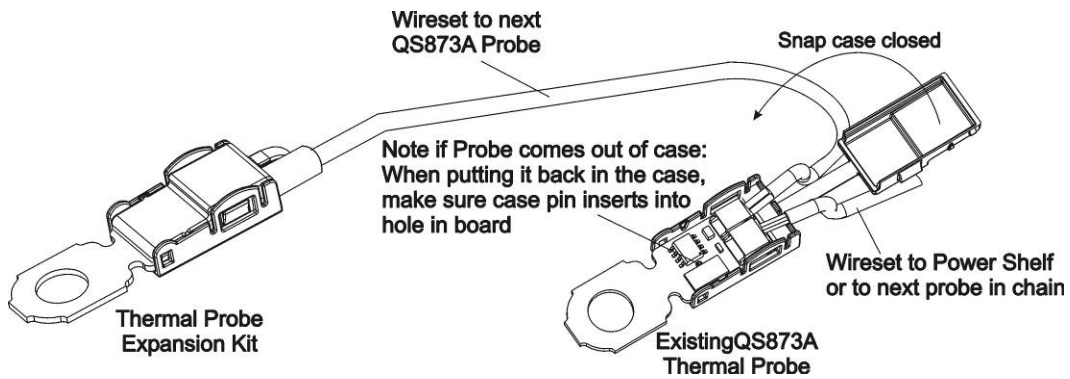

FIGURE 2: Daisy Chaining from Probe to Probe
- Plug the end of the wireset from the expansion kit into the only available connector on the existing Thermal Probe as shown in Figure 2 then snap case closed. The wires should then be cable tied back to the case for strain relief.